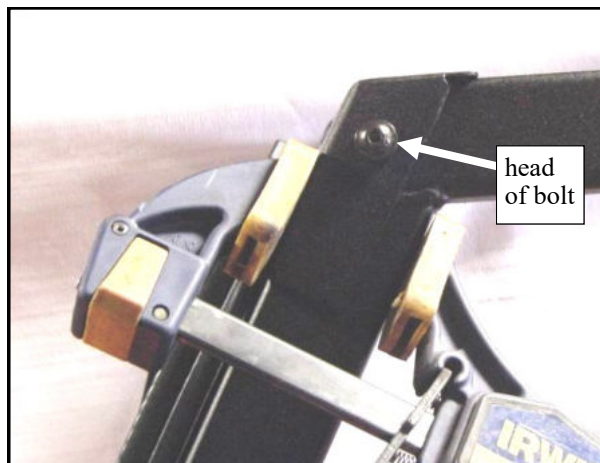

Fig. 10.1 (view from left side of tractor)
10.1 Per fig. 10.1, keep the windshield support tight against the side frame tubing (downward also) and tighten the two bolts (one per side). Use bar clamps as shown if necessary.